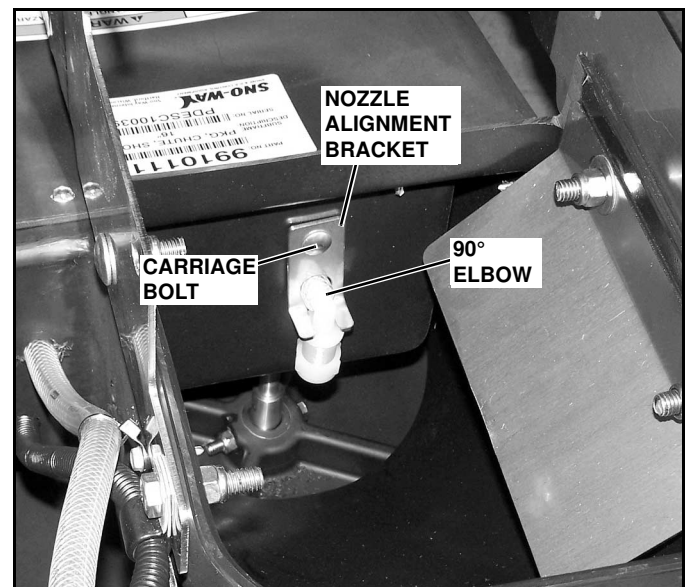

Figure 1-14
14. Insert the opposite end of the hose into the chute, through the nozzle alignment bracket and the drilled hole behind it. Push the nozzle body tight up against the nozzle alignment bracket so the barb end of the nozzle body that has the hose on it sticks through the drilled hole. (See Figure 1-14)